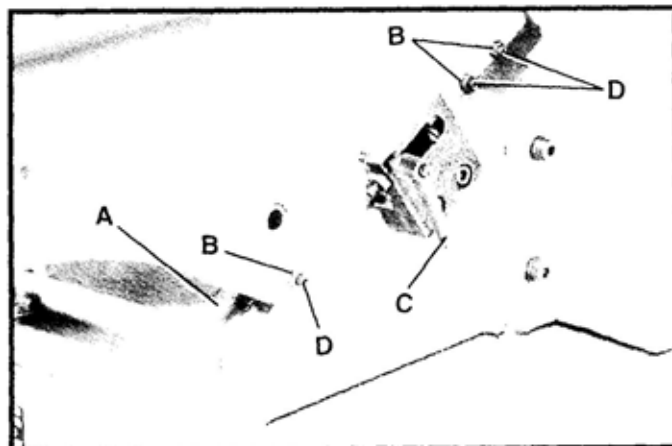
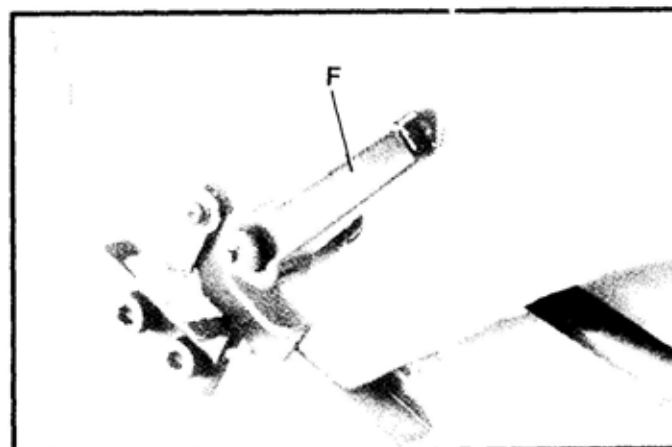

Fig. 48
Fig. 49
1. To adjust the infeed table gib, loosen locking knobds (C) Fig. 48 and (F) Fig. 49. Loosen three locknuts (B) Fig. 48, and tighten or loosen three adjustment screws (D) as necessary. **NOTE:** Adjust the lower screw first and as you proceed to the upper adjustment screws, gently raise the outboard edge of table. This will offset any tendency for the table casting to "droop or sag" and permit the gib to be adjusted to the proper fit to the upper adjustment screws. Tighten three locknuts (B) Fig. 48, and two table locking levers.